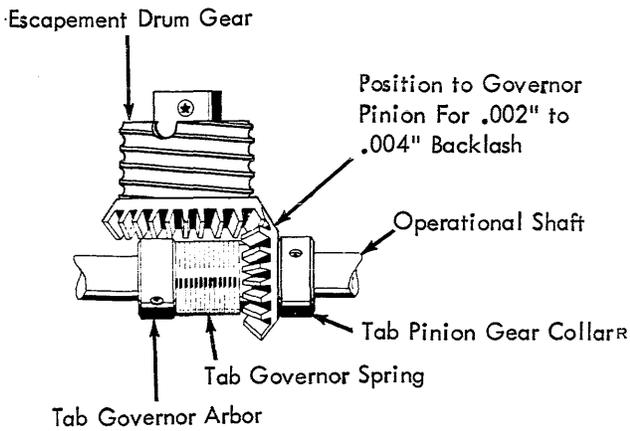

FIGURE 109. Tab Governor Pinion
2. Tab Governor Pinion - Adjust the tab governor pinion to have  $.002''$  to  $.004''$  backlash at the point of closest mesh with the escapement cord drum gear. Adjust the pinion by moving both the tab governor hub and collar located on each side of the pinion. The pinion should have a minimum of end play yet still rotate freely (Fig. 109).